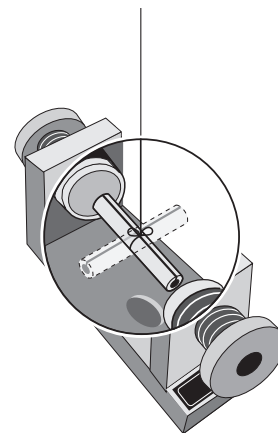

Figure 12
- ② Follow the same procedure for the aluminum (paramagnetic) sample except, instead of initially aligning the tube with the magnetic field, put the aluminum tube perpendicular to the field at the beginning of the demonstration to show that it will rotate into the equilibrium position which is parallel to the magnet's field lines (Figure 12). Then rotate the magnet to show that the